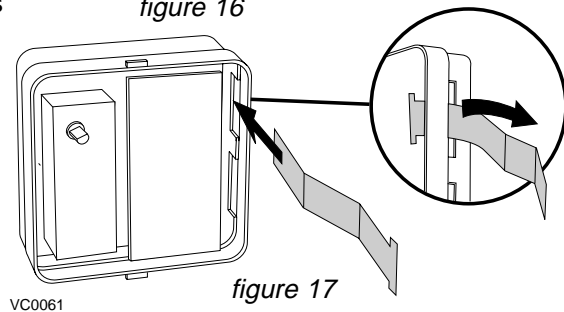

figure 17
- 5- Make sure the instruction pull-out is in the occupant's language. If not, turn it to the other side. (See figure 17)